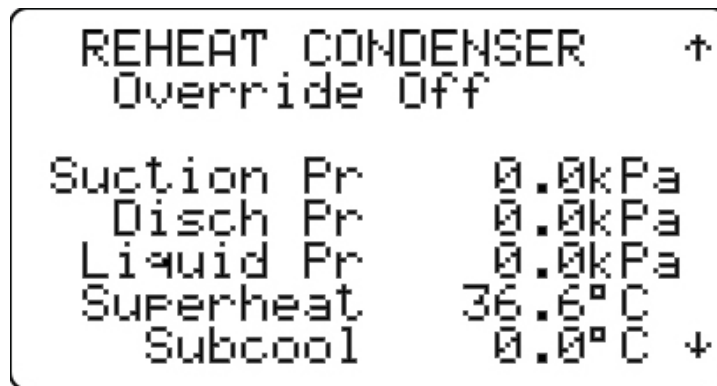

Figure 60
4.3.4.5 Diagnostics (Figures 60 - 62)